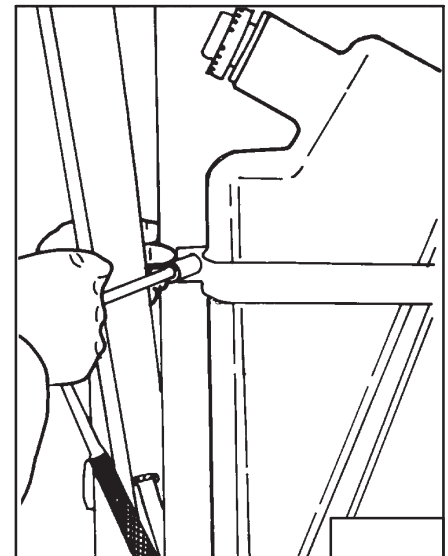

**Fig. 5-50** Moving Sender Wire
4. Put the wire in the tank area (Fig. 5-50).